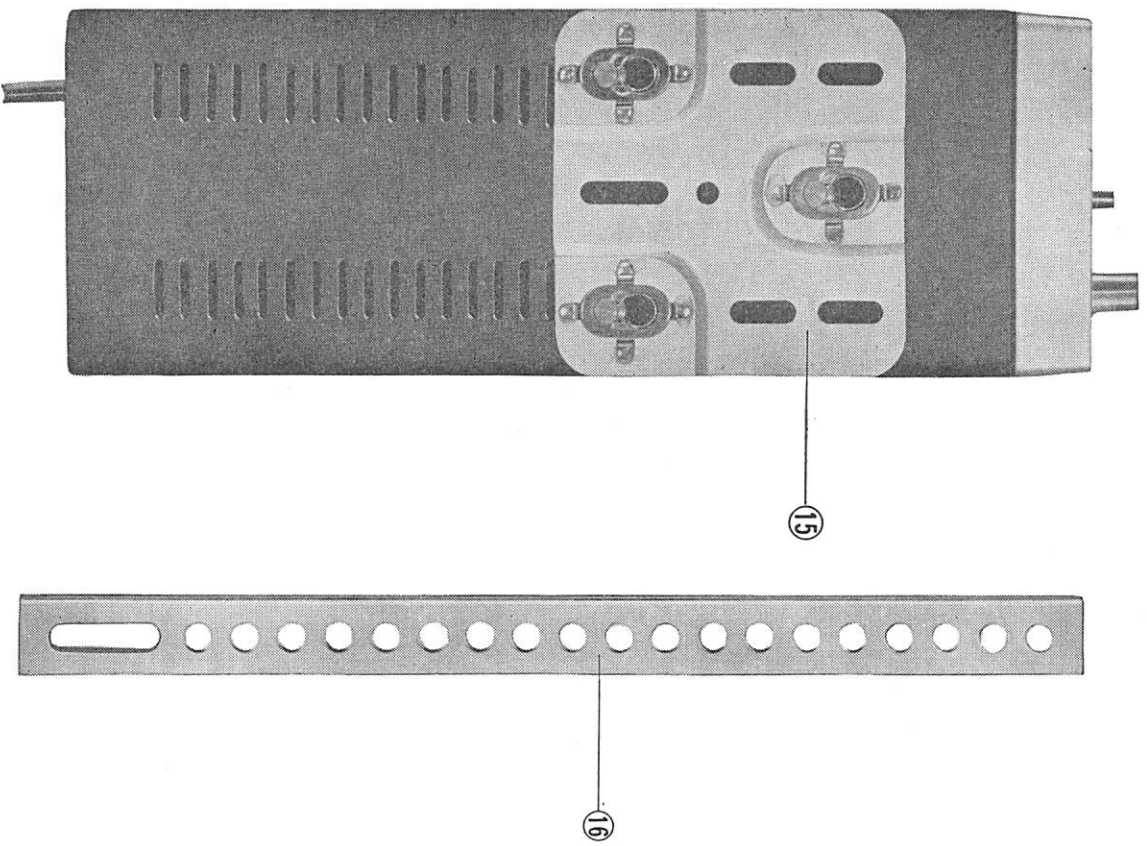

Figure 2-1
1. Take out the furnished mounting metal bracket ⑨ and attach it at the ensured installation position on the body of the radio. Depending on the installation position, use the supplied auxiliary mounting bracket, which can be bent or cut freely to your need (See Figure 2-1).
3. Set the body of the radio again on the mounting bracket. Prior to taking this step, ensure that the calibration switch on the rear on the body of the radio ⑩ is at "OFF" position (See Figure 2-1).
5. Perfectly connect the antenna connector ⑪ (See Figure 2-1).
6. Connect the microphone to the microphone connector ⑬ on the front of the radio, and fix the supplied microphone hanger on a convenient place for removal (See Figure 2-1).